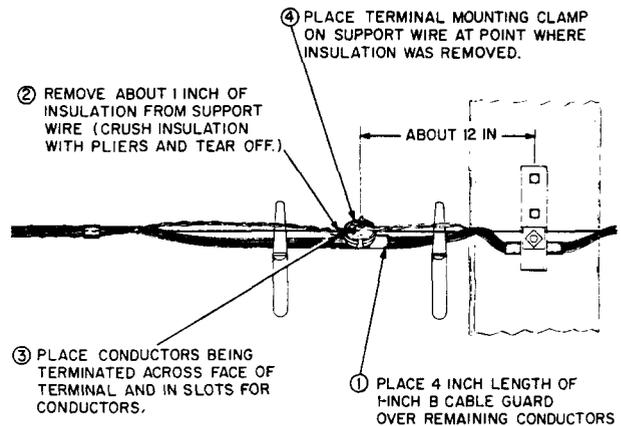
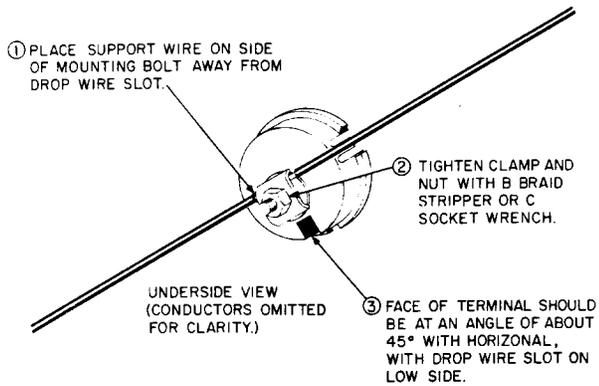

Fig. 10—Attaching 105A Wire Terminal
Fig. 11—Attaching Support Wire
8.03 Attach 105A wire terminal (Fig. 10) to wire pin and secure to support wire as shown in Fig. 11.